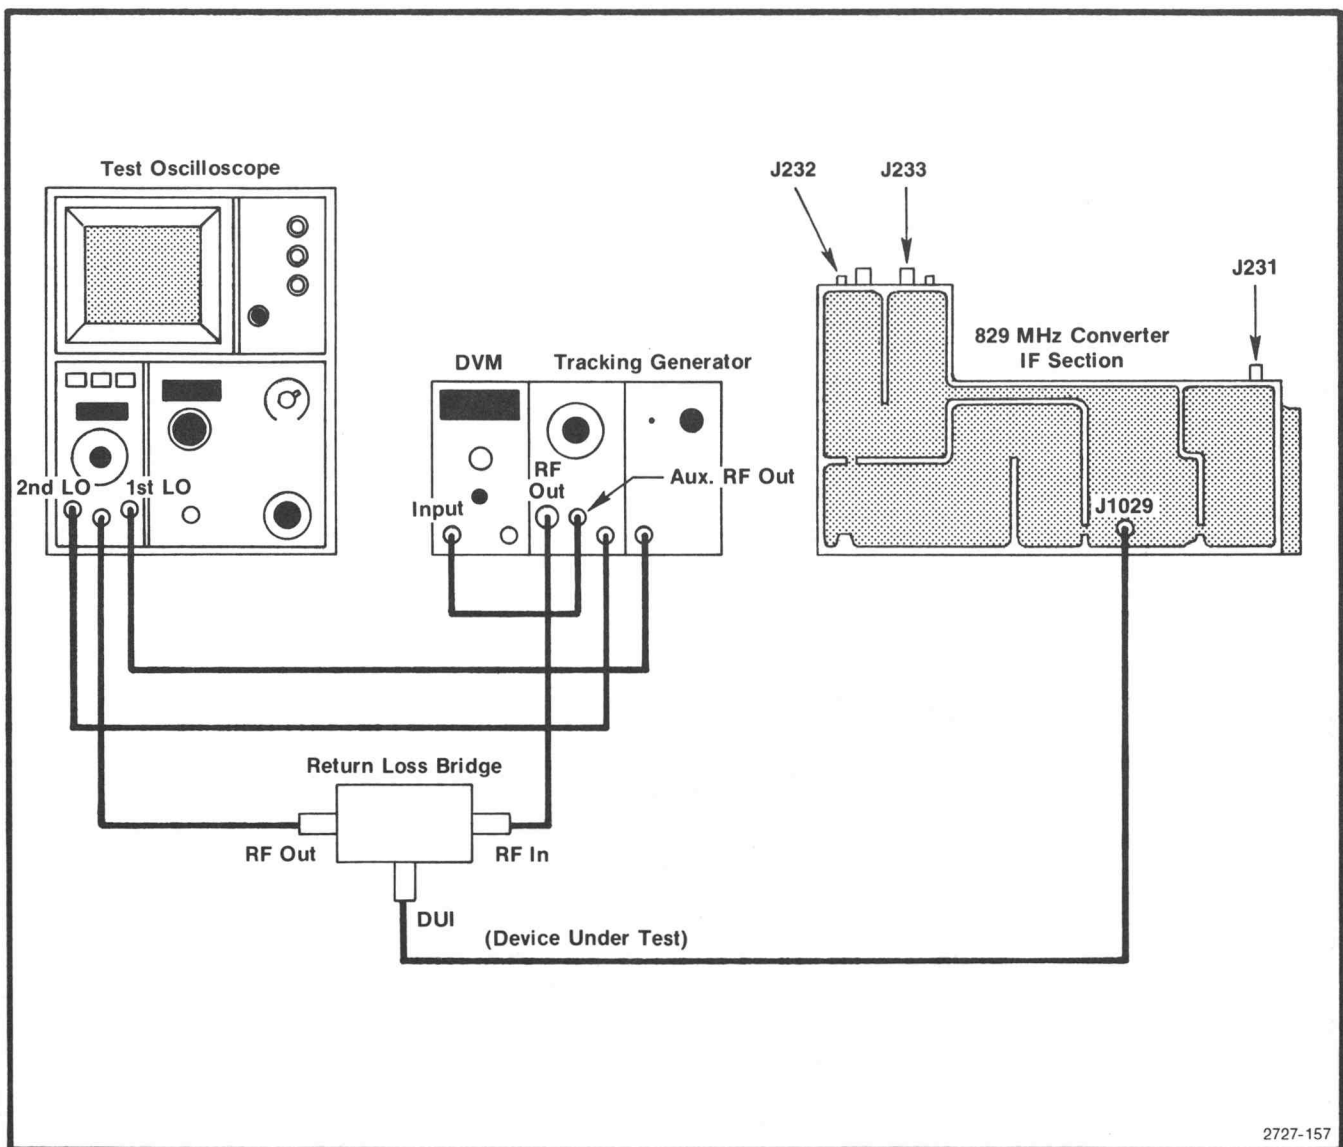

Fig. 4-14. Test equipment setup for aligning the 829 MHz filter.
c. Connect the spectrum analyzer, tracking generator, and frequency counter together as a system, with the frequency counter connected to the Auxilliary RF Output of the tracking generator (see Fig. 4-14).
d. Connect the spectrum analyzer/tracking generator system through the return loss bridge to the Peltola jack (J1029) on the 829 MHz amplifier board (see Fig. 4-14). Reconnect P235 (100 MHz reference signal) and P237 (2182 MHz input) to the LO section of the converter.